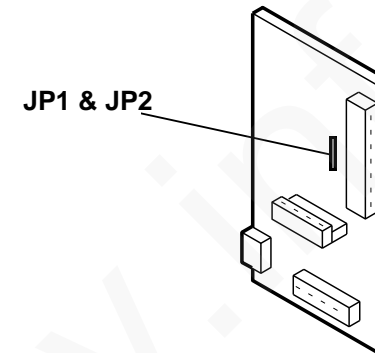

Figure 1. Encryption Interface PWB Jumpers
2. Set the encryption interface PWB jumpers (Figure 1) to the required settings as shown in Table 1.